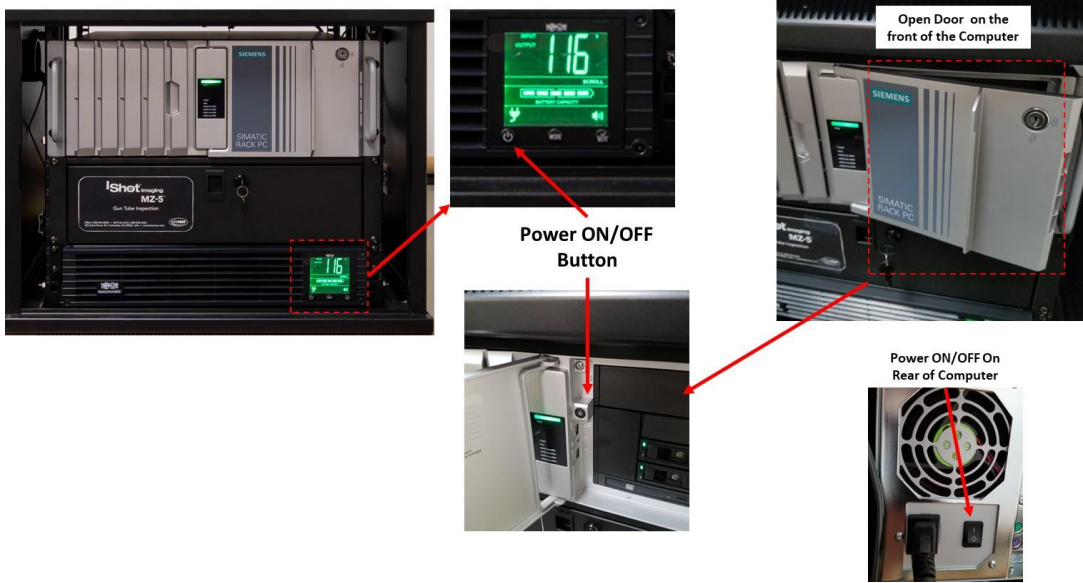

Figure 12 System Power "ON/OFF"
(8) Refer to Figure 12: Power Up the System